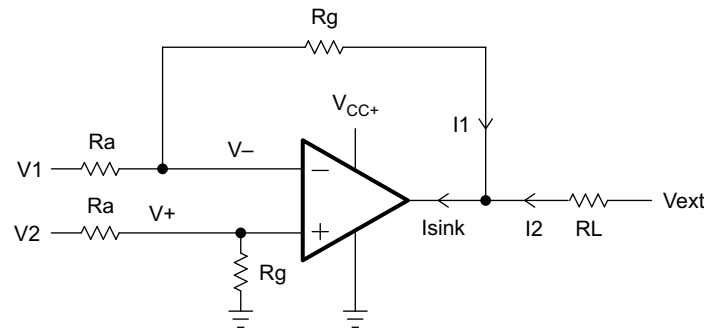

Figure 5. Typical Op-Amp Differential Circuit
- When output voltage is higher than V_{be} of 600 mV, the PNP transistor is active and is capable of sinking current of a few mA. The output voltage is proportional to the input V_i , and $V_o = G \times V_i$, where G is the gain in a closed loop relative to the network resistors. Using the example in Figure 5, $V_o = R_g / R_a \times (V_2 - V_1)$, where $V_2 - V_1$ can be the voltage drop across a sense resistor.
- When output voltage is lower than V_{be} of 600 mV, the PNP is idle and can not sink any current. In this case, the only available path is the 50- μA current regulator. Using Figure 5 again, the output voltage is proportional to the input. $V_o = R_g / R_a \times (V_2 - V_1)$ only if the current sink is lower than the 50- μA current regulator. If the sinking current is higher than 50 μA , the output is no longer equal to $R_g / R_a \times (V_2 - V_1)$. The output voltage is at higher value.
As mentioned, from Figure 5, the output voltage is proportional to the input as long as the sinking current is lower than the sinking capability according to: